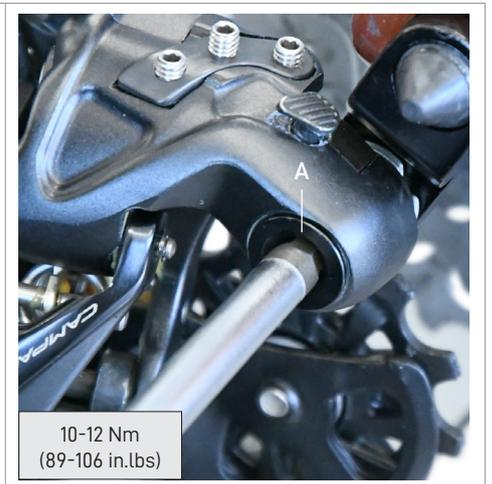

Fig.4
• Secure the rear derailleur to the frame with the screw (A - Fig. 4) using a 5 mm Allen wrench.